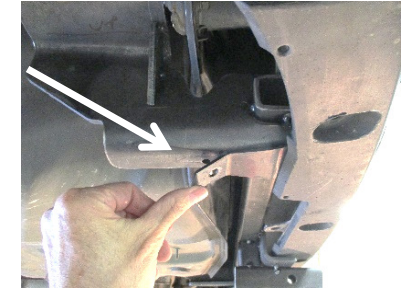

Figure 4
- Reinstall the underbody panel** using (4 of 6) push-pin rivets, (4) threaded fasteners, and (1) hex nut.
- Secure Fascia tabs** -Using (2) cable ties provided, secure (2) rear fascia tabs to bottom of hitch bracket. Trim excess ends of cable ties. **See Figure 4.**
10. Reinstall the underbody panel using (4 of 6) push-pin rivets, (4) threaded fasteners, and (1) hex nut.
11. Using the (2) cable ties provided, secure (2) rear fascia tabs to bottom of hitch bracket. Trim excess ends of cable ties. See Figure 4.